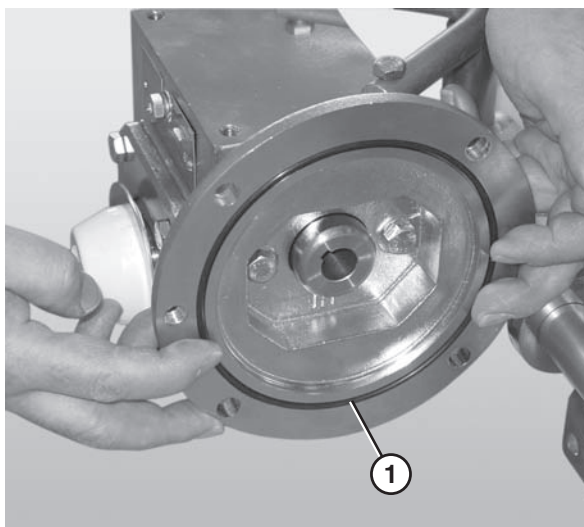

Figure 63
Ensure the O-ring (**Figure 63, item 1**) and motor output shaft key (**Figure 63, item 1**) are situated properly before attaching the motor to the gear reducer.